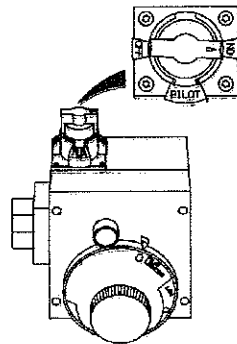

Figure 8
11. At arms length away, turn gas control knob counter-clockwise (↺) to the full "ON" position. **WARNING Do not use gas control knob to regulate gas flow.** (Figure 8)